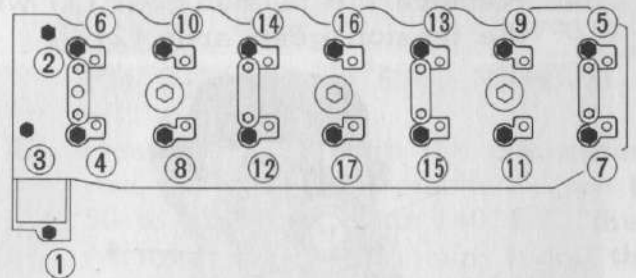

Fig. 2-16 Cylinder Head Bolts Removal
29. Loosen and remove the cylinder head bolts in the order illustrated in figure 2-16 to prevent warpage. Do not loosen and remove the cylinder head bolts at one time. Perform the removal in two or three procedures.